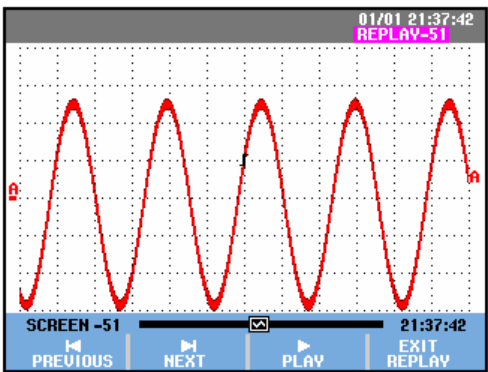

Figure 23. Replaying a Waveform
- Observe that the trace is frozen and that REPLAY appears at the top of the screen (see Figure 23).